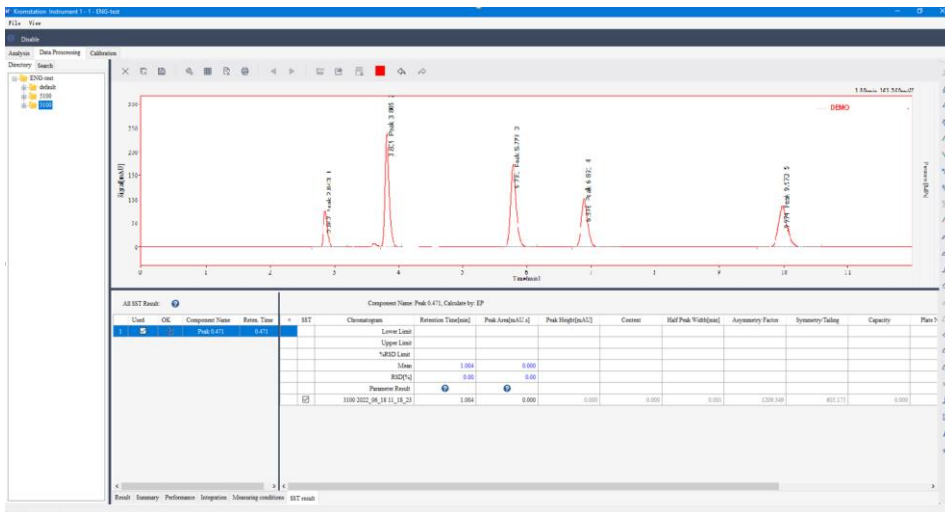

Figure 6-21 Selecting parameters
7) In the SST drop-down menu, select "Parameters" to set the parameters, as shown in Figure 6-21.